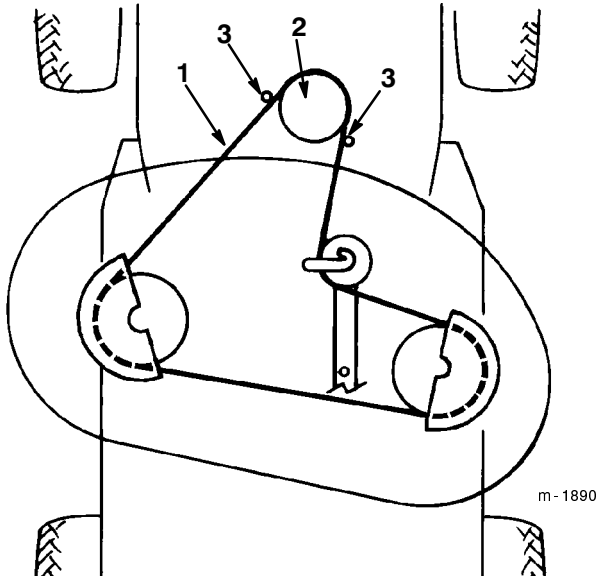

Figure 40
- Remove the mower belt from the lower engine pulley (Fig. 40). If you are careful, you can flex the belt guide(s) just far enough away from the pulley to remove the belt. If it is too difficult to remove the belt, loosen the bolts and nuts securing the belt guides.
- Install the mower belt onto the lower engine pulley (Fig. 40). If you are careful, you can flex the belt guide(s) just far enough away from the pulley to install the belt. If it is too difficult to install the belt, loosen the bolts and nuts securing the belt guides.